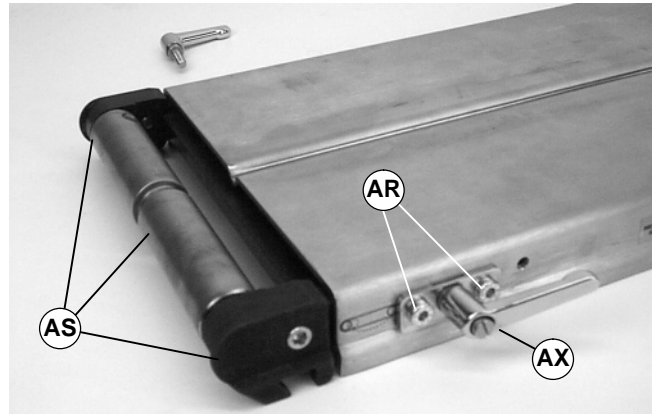

Figure 36
3. Remove two (2) screws (AR of Figure 36). Remove handle assembly (AX).